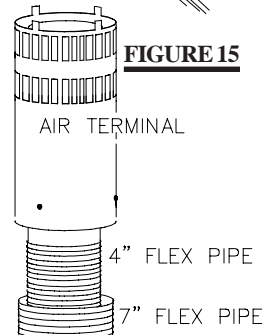

FIGURE 15
2. Fasten the roof support to the roof using the screws provided. **FIGURE 15.** The roof support is optional. In this case the venting is to be adequately supported using either an alternate method suitable to the authority having jurisdiction or the optional roof support.